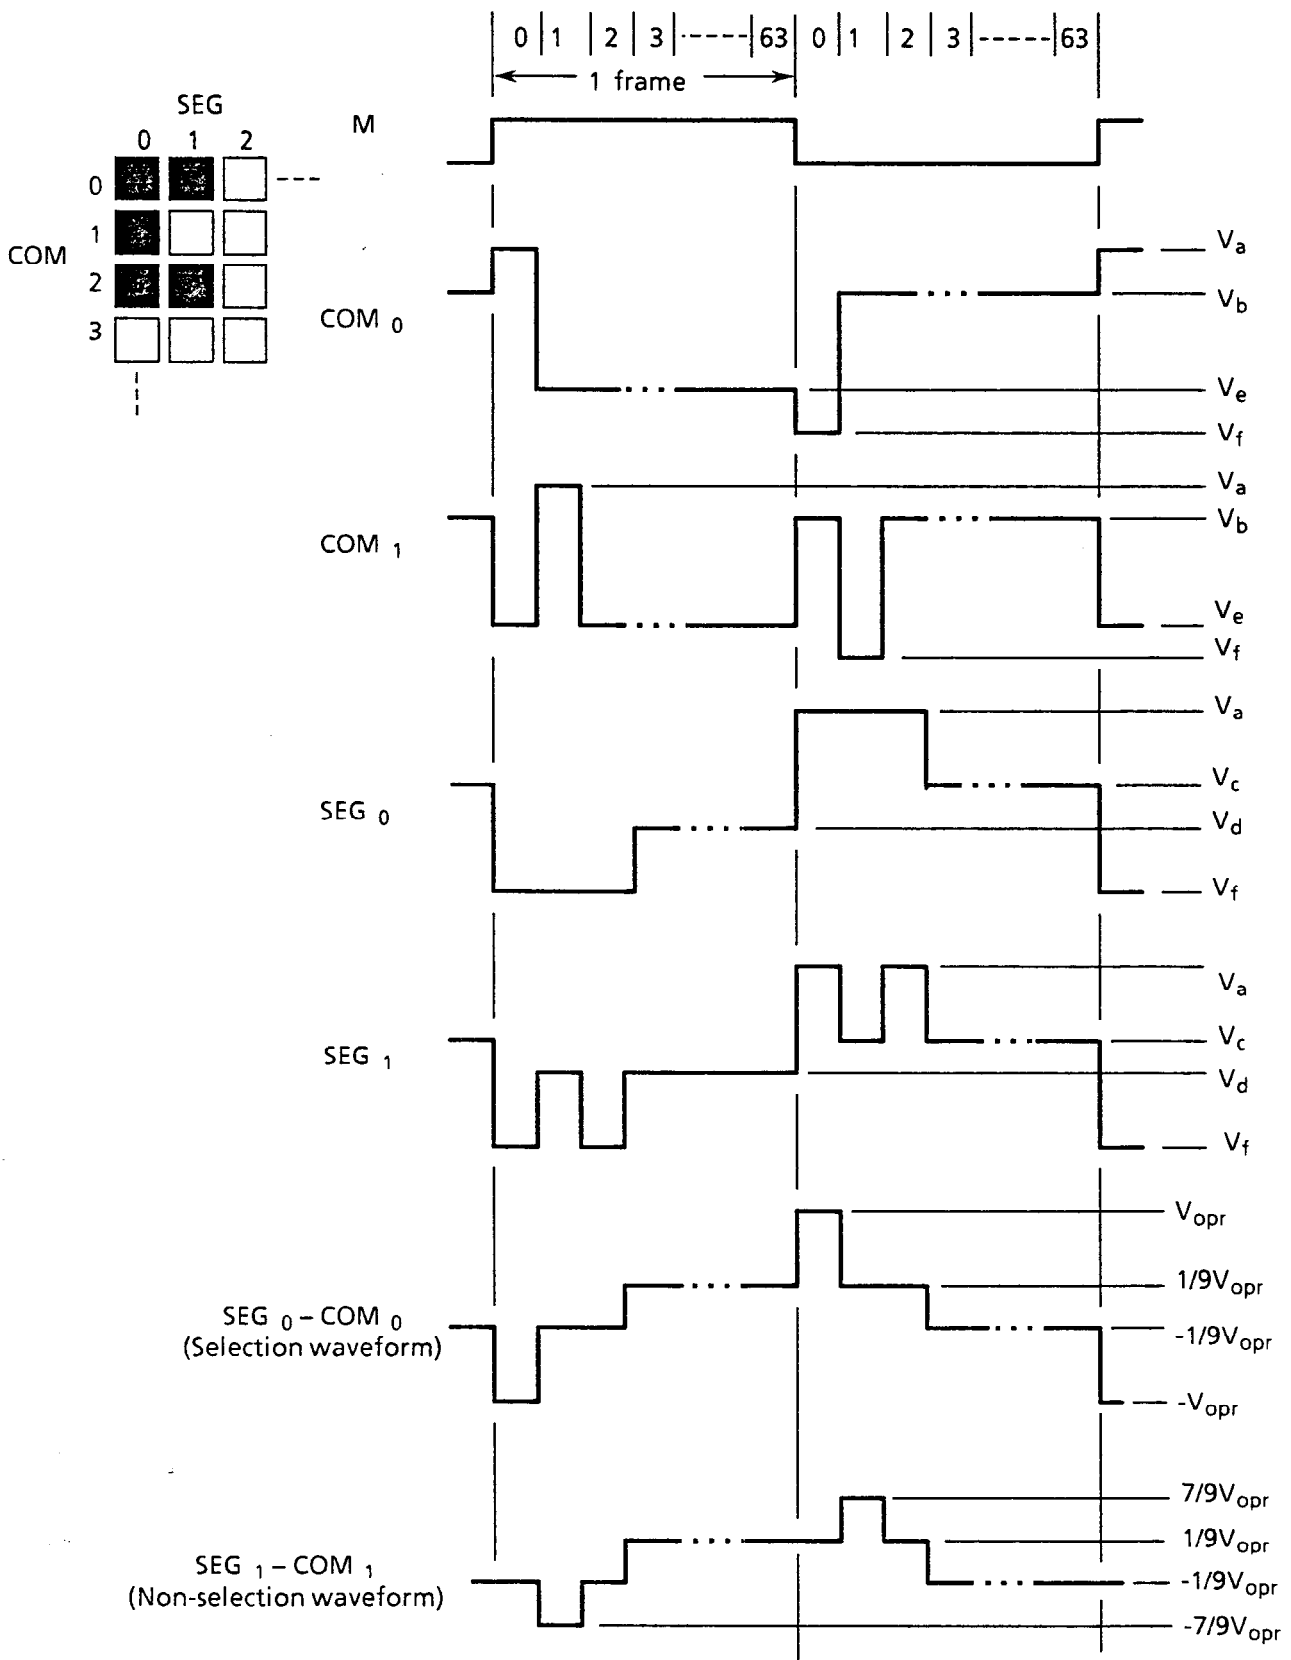

Figure 2 Drive waveform
The drive waveform of the LCD panel is shown in Figure 2 on the next page. Since DC may damage the liquid crystal, the drive waveform polarity is reversed at alternate frames, and AC is applied between two frames. The signal controlling this is the liquid crystal AC drive control signal (M). The frame frequency is normally set to about 70 ± 5 Hz to prevent screen flicker.
The G2436 has a 1/64 duty cycle, and the common electrodes are selected within a frame by time division from electrode 1 to electrode 64. This is called line sequential scanning. The voltage level of the segment electrodes determines whether the dots at the intersection of the segment electrodes are selected or not, when the common electrode is selected. As shown in Table 1, there are six drive waveform voltage levels, V_a to V_f . The voltage level is determined by the bias value. The voltage between the segment and common electrodes is thus applied to the liquid crystal. The selection waveform for SEG_0-COM_0 and the non-selection waveform for SEG_1-COM_1 are shown in Figure 2. The size of the effective voltage of the waveform determines whether the liquid crystal under the selected dots is in the selection or non-selection state.